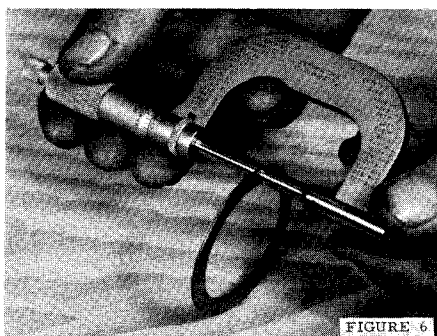

FIGURE 6
- Remove the gear spacer, bearing locknut and washer, bearing retainer plate and five (5) outer race retainer screws and washers, Figure 6.
Check shim thickness with an outside micrometer, Figure 6.